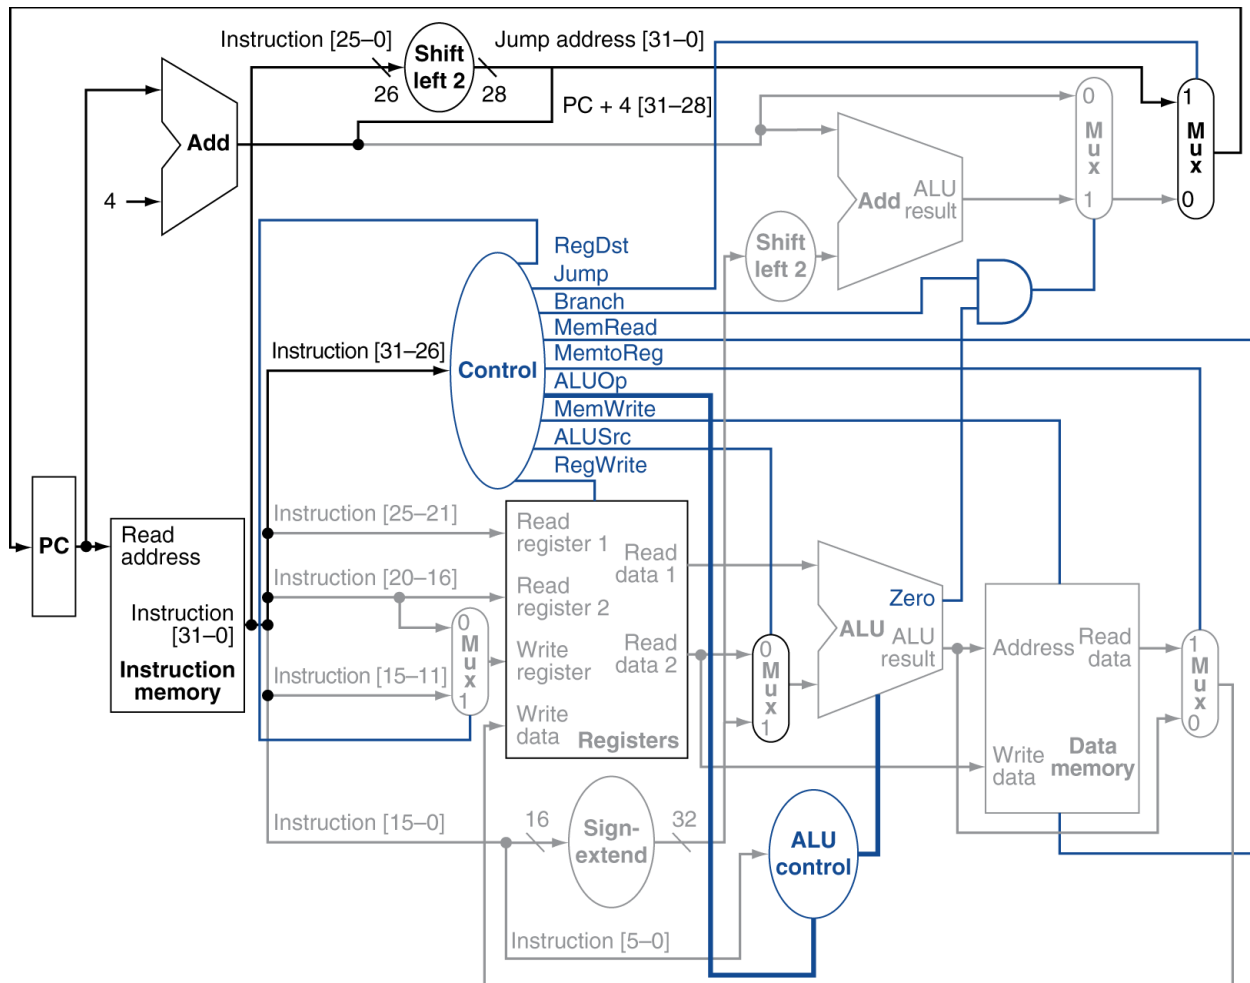

Figure 1. The processor diagram of a single-cycle implementation
2. By Dec. 5th (Friday): Implement a single-cycle processor architecture shown in Figure 1.